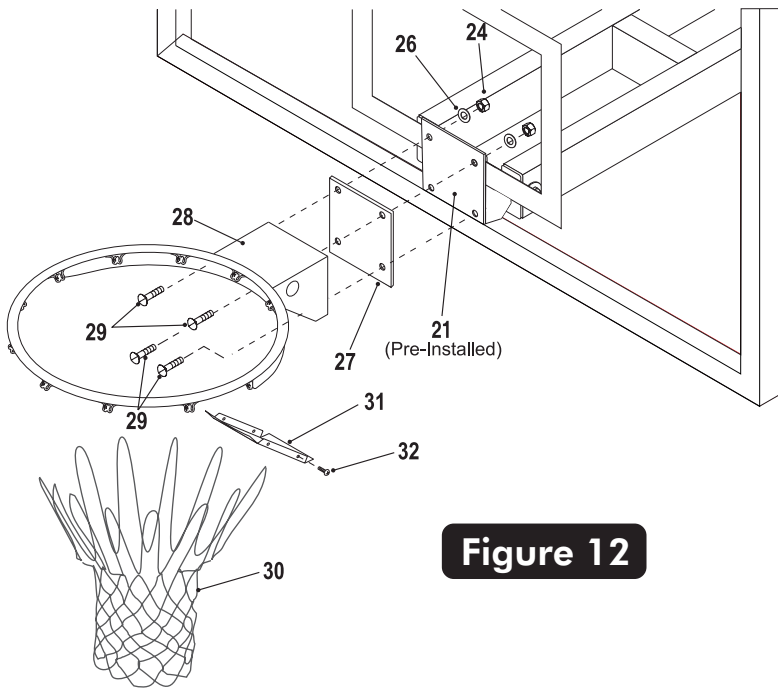

Figure 12
18. Mount Goal Assembly (#28) and Rim Pad (#27) to Backboard, as shown in Figure 12, using four bolts (#29), washer (#26) and four nuts (#24). Tighten Fasteners finger tight, leave loose enough to level rim.